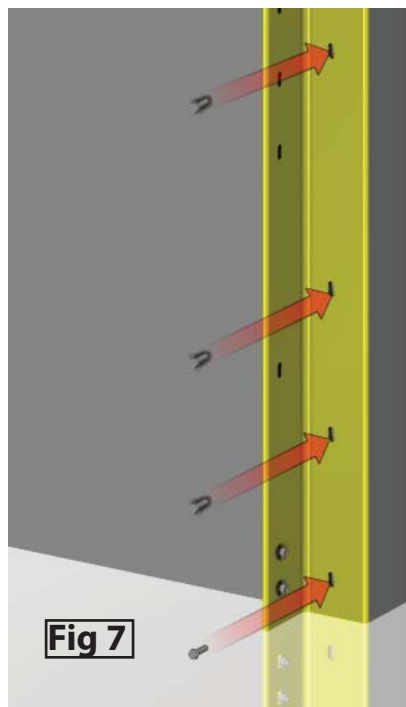

Fig 7
- Install the wall anchors mounting the wall guides to the wall as shown in FIG 7.